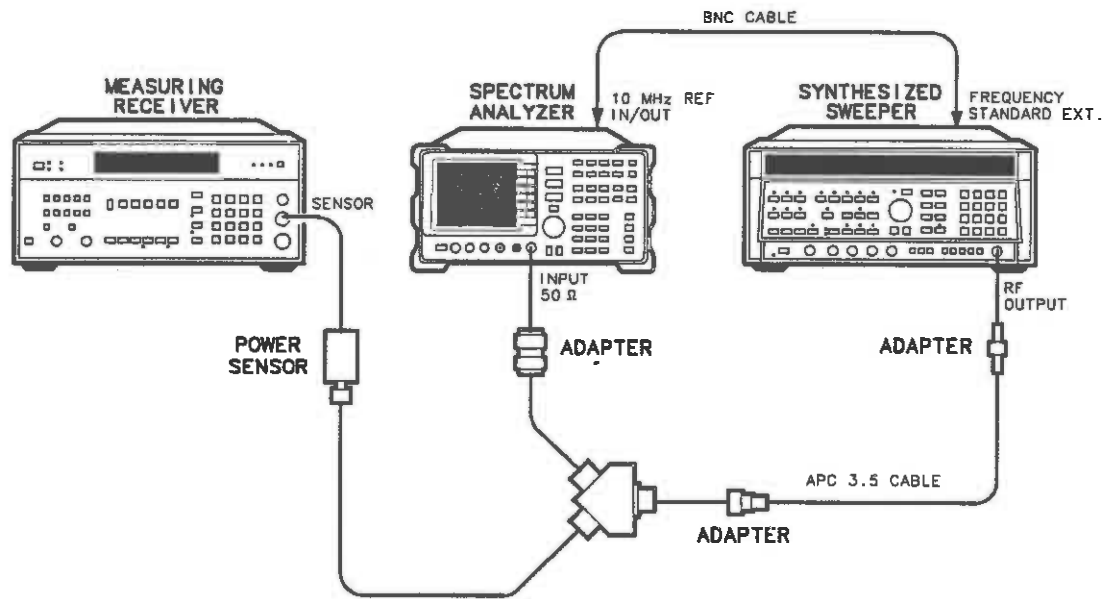

Figure 3-17. Frequency Response Test Setup, 50 MHz to 2.9 GHz
2. Connect the equipment as shown in Figure 3-17.
30. Connect the equipment as shown in Figure 3-17.